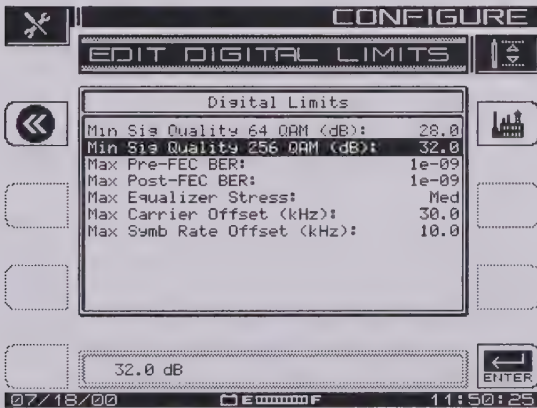

Fig. 3-12 The Edit Digital Limits Screen
1. From the CHANNEL PLAN menu shown in Fig. 3-2, scroll to the Edit Digital Limits item and press the Continue soft key. The screen shown in Fig. 3-12, EDIT DIGITAL LIMITS, appears.